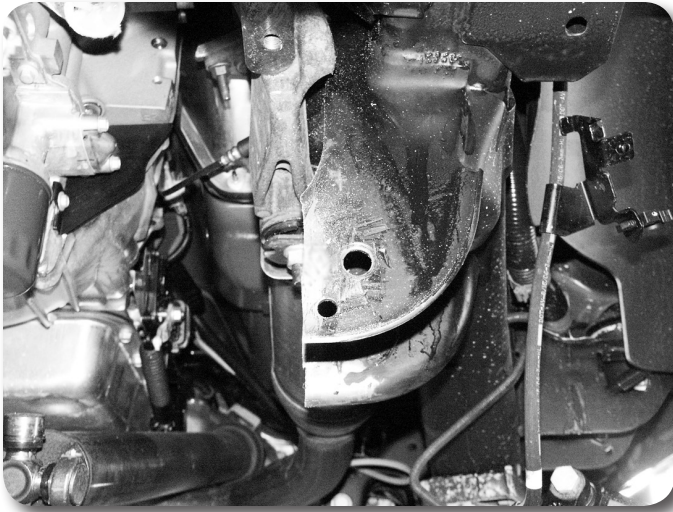

Figure 15
25. With the vertical cuts complete, cut the top portion of the pocket by connecting the two cuts **Figure 15**. Paint all exposed metal to prevent corrosion.